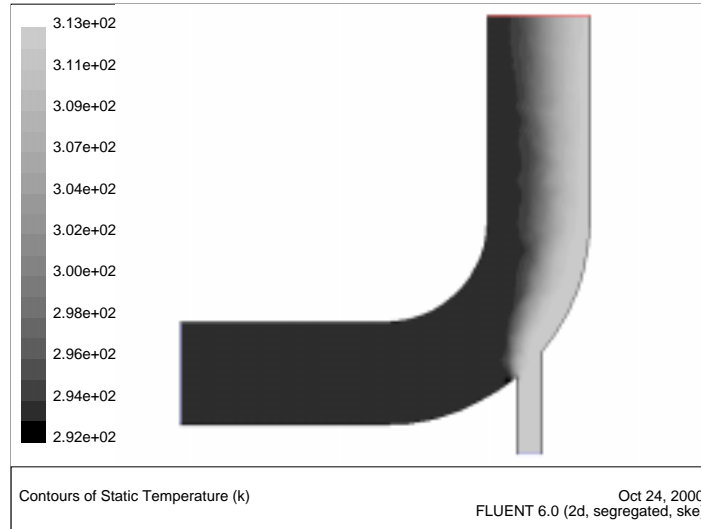

Figure 1.12: Temperature Contours for the Second-Order Solution
- Examine the revised temperature distribution (Figure 1.12).